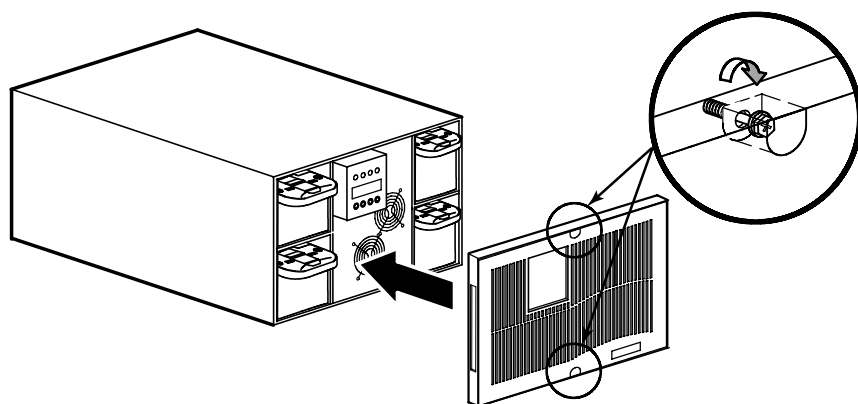

Figure 6. Replacing the UPS Front Cover
3. Replace the UPS front cover and tighten the two front cover screws (see Figure 6).